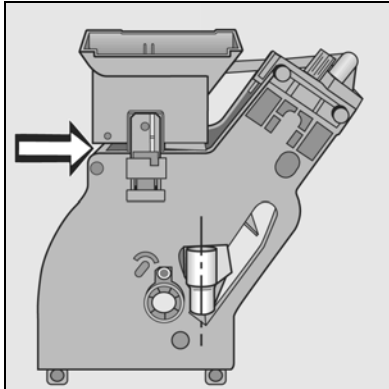

Figure 5-28: Brew Unit in Reset Position
4. Figure 5-28 shows the “home” position after resetting. The brew unit can now be re-installed into the appliance.